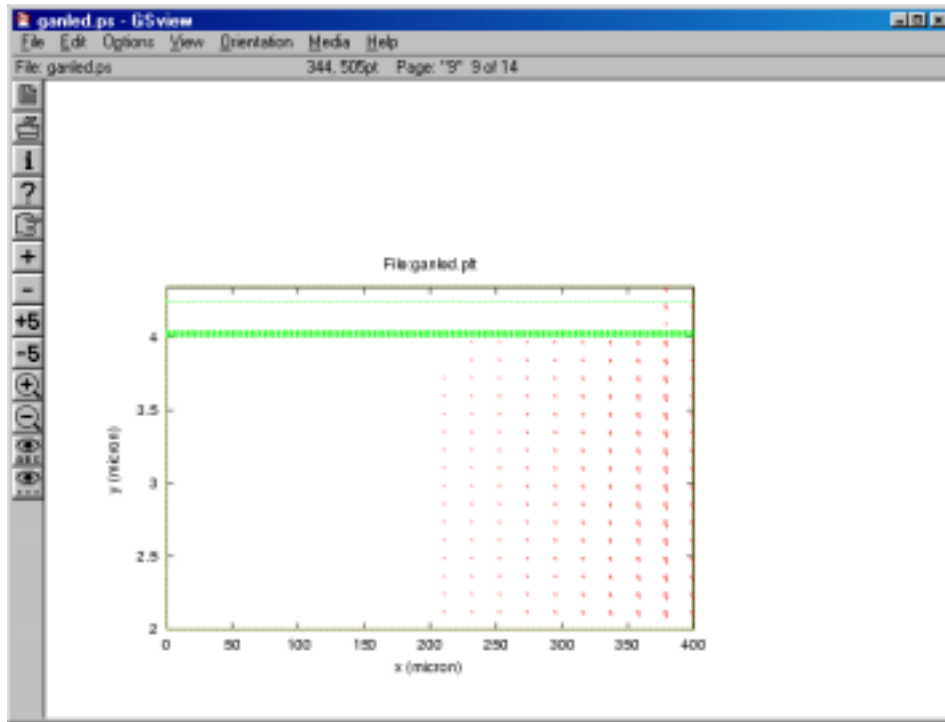

Fig. 16d: Vector plot of current density in column 1 showing strong current crowding on the right.
- 2D vector plot of the total current in column 1 with strong current crowding at the right side (Fig. 16d)